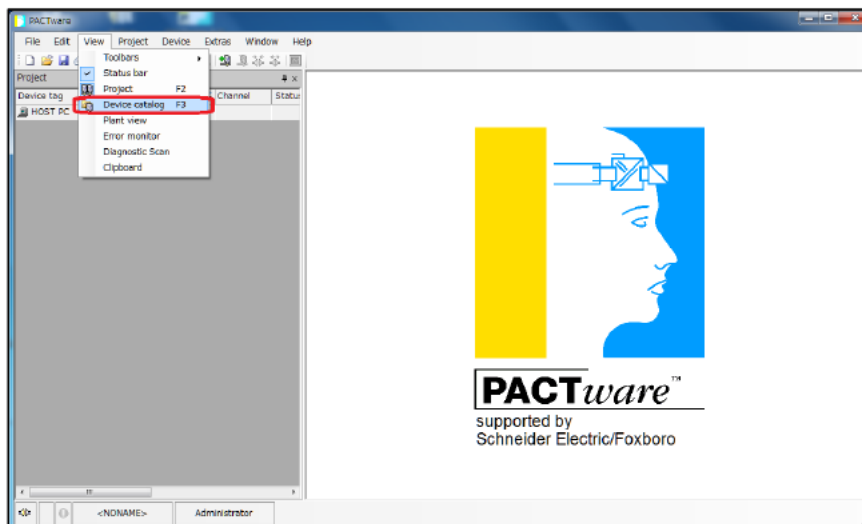

Figure 5-18 PACTware main window (Device catalog menu selection)
- ① Launch PACTware.
- ② Select Main menu ⇒ View ⇒ “Device catalog”. (Figure 5-18)